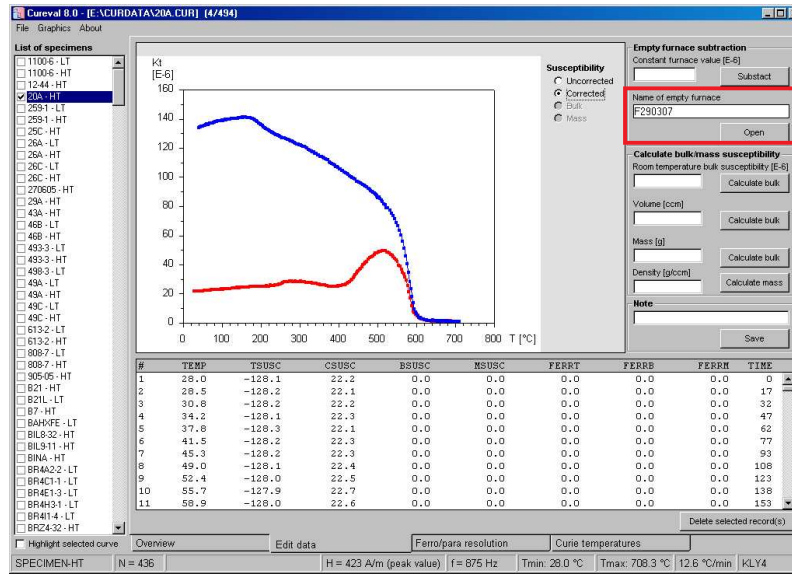

Figure 5: Subtraction of constant value, corrected data
- **Empty cryostat/furnace curve** – The file name containing the corresponding cryostat/furnace if displayed (if you had entered its name during data acquisition by Sufyte software). Hit **Open** and select the corresponding file containing empty cryostat or furnace data (Fig. 5). The subtraction is performed automatically after opening the empty furnace or cryostat data file. Note that you may use the same empty cryostat or furnace thermomagnetic curve for many specimens so it is not necessary to measure the empty cryostat/furnace before each specimen. Before the subtraction, the empty cryostat/furnace curves must be got rid of any outlying measurements (spikes or peaks on the curve) and smoothed (see Section 2.1.2).
To view the corrected curve click on the **Corrected Susceptibility** option in the right-hand side of the graph (Fig. 5).